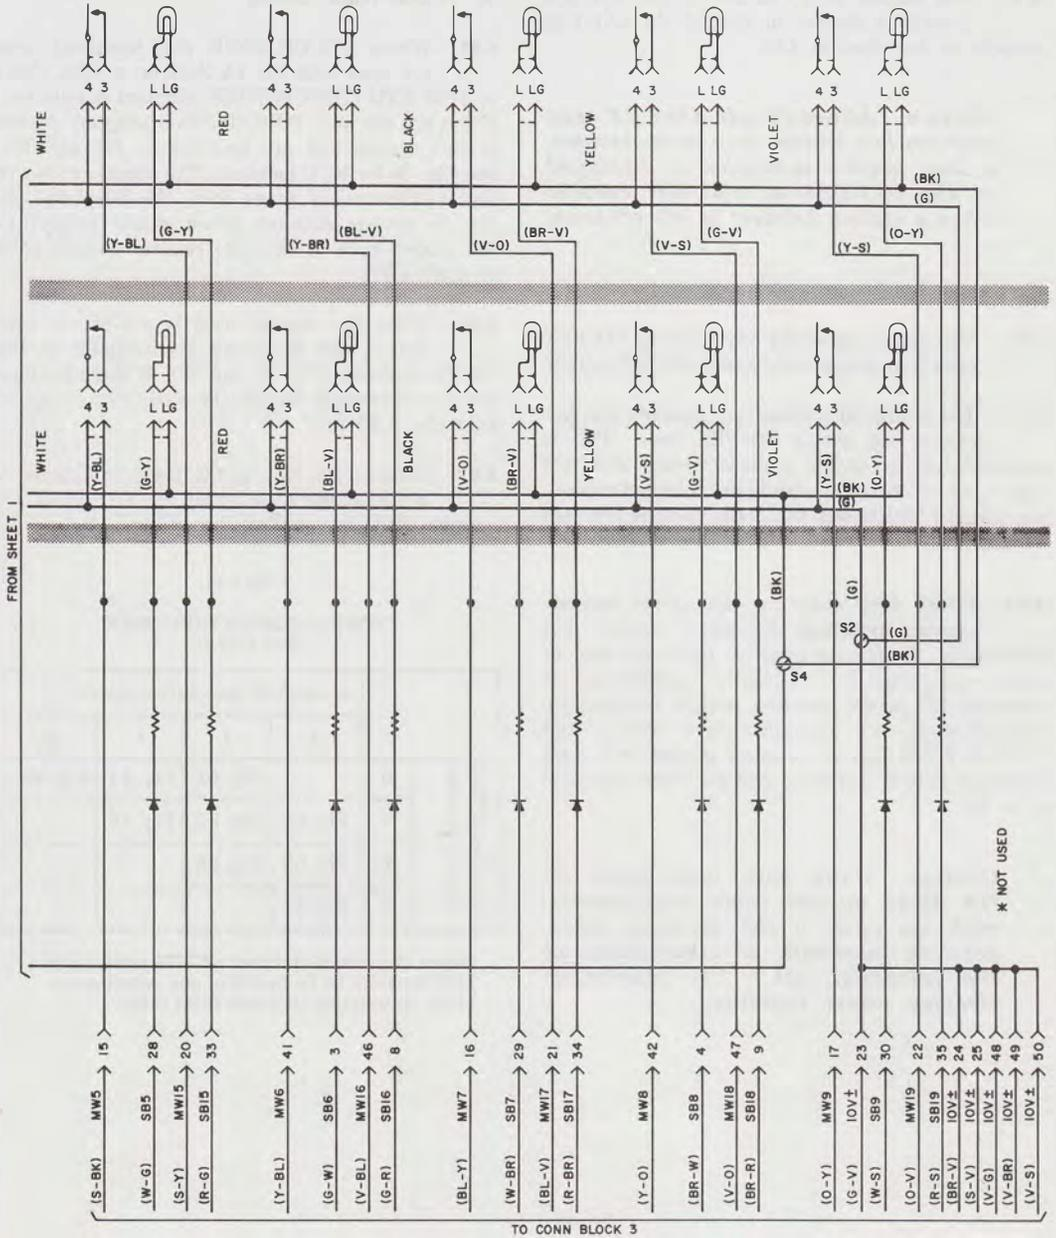

Fig. 49—6B1 Station Busy Console With MW, Schematic (Sheet 2 of 2)
4.89 By depressing the appropriate button on the 6B1 console, an attendant may signal any station that there is a message waiting by lighting the lamp under the station HOLD button. The console also provides the attendant with a visual indication of a busy station. Seventeen buttons on the console correspond to the station codes (3 through 19); three buttons are not used. See Fig. 49 for schematic of 6B1 console.